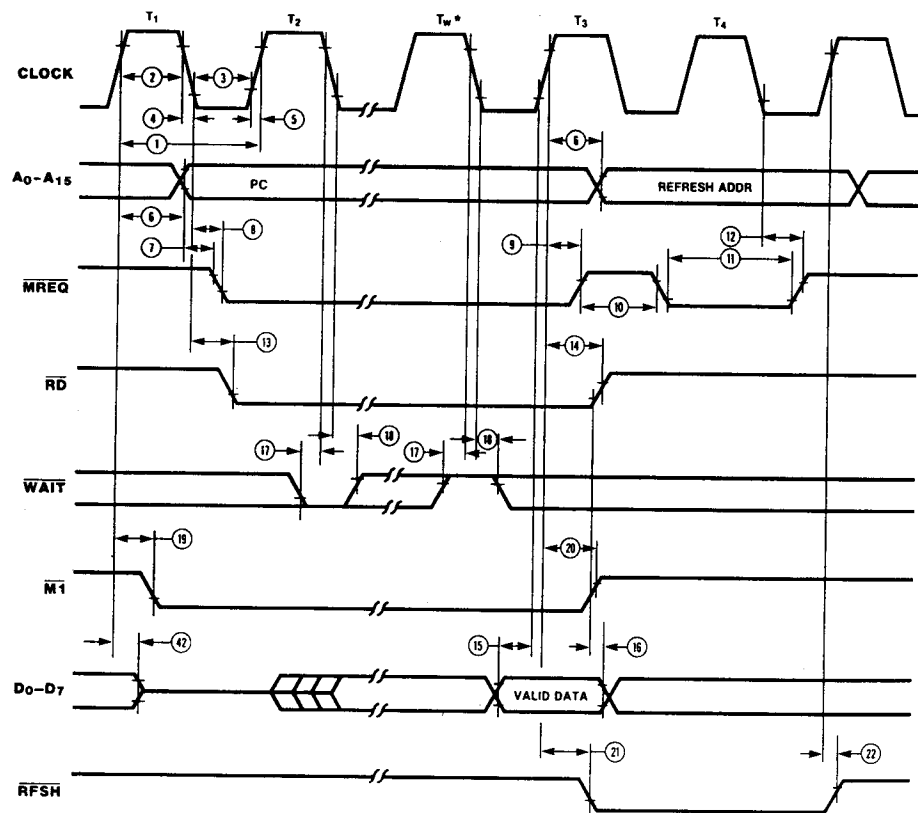

Figure 5. Instruction Opcode Fetch
Instruction Opcode Fetch. The CPU places the contents of the Program Counter (PC) on the address bus at the start of the cycle (Figure 5). Approximately one-half clock cycle later, $\overline{\text{MREQ}}$ goes active. When active, $\overline{\text{RD}}$ indicates that the memory data can be enabled onto the CPU data bus.